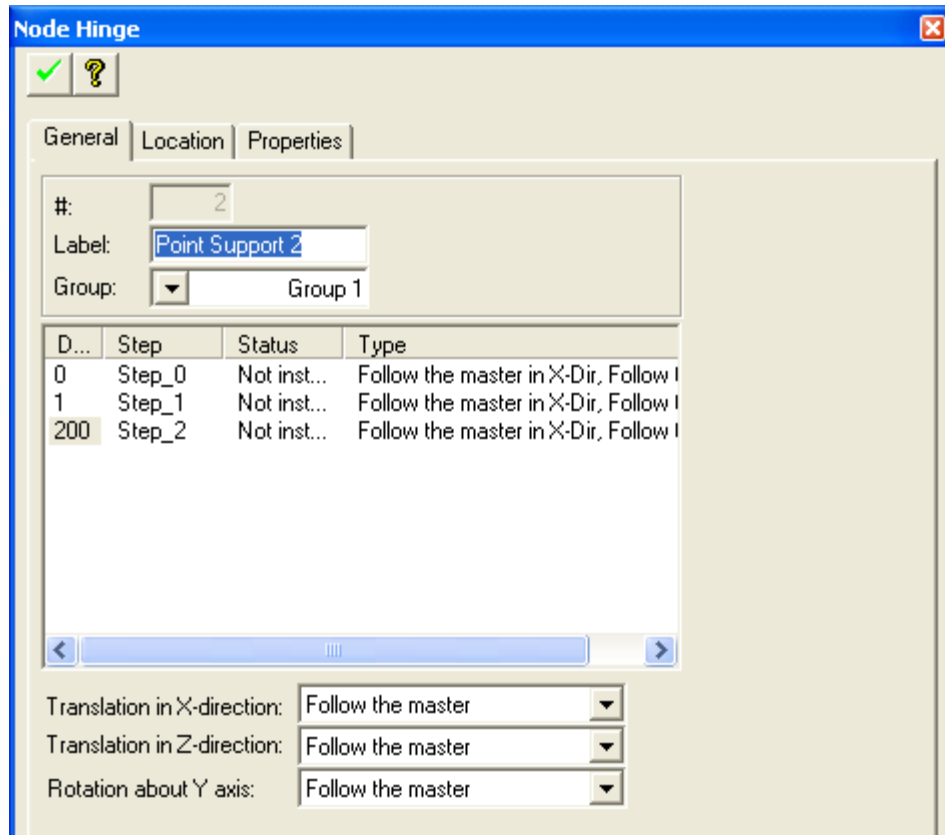

FIGURE 2.14-10 NODE HINGE PROPERTY BOX
**Create Node Hinge.** This tool is used to specify a node hinge on the structure. To create a node hinge click on the  tool and follow the instructions at the bottom of the screen. To edit a node hinge open its property box as shown in **Figure 2.14-10**.